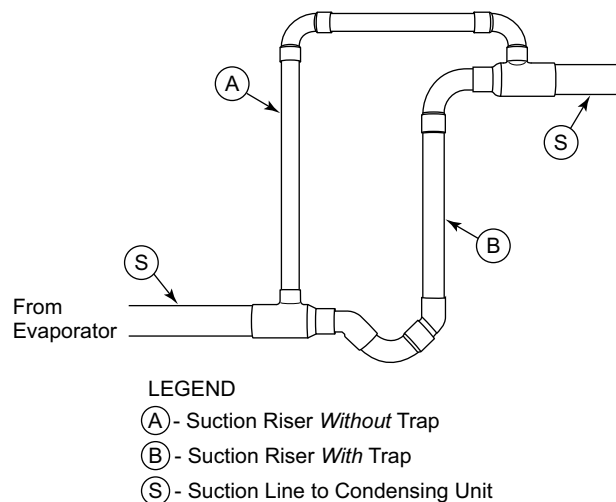

Fig. 7 — Suction Line Piping — Double Riser
- See Fig. 7 for double riser diagram.
See Fig. 7, for double riser reference, where, tube S is the horizontal line size, tube A is the reduced diameter riser size without bottom trap, and tube B is the parallel riser size with bottom oil trap.